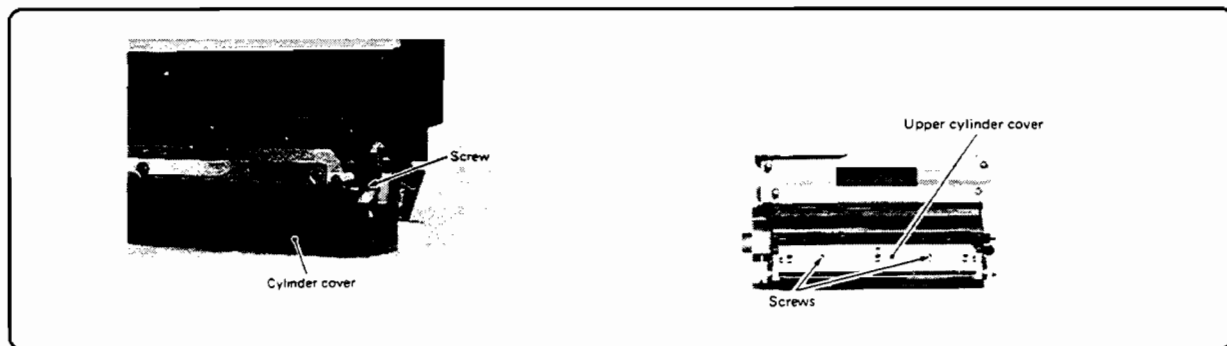

Figure 6-60. Developing Cylinder Covers
3. Remove the screw and detach the cylinder cover (Figure 6-60).
4. Remove the two screws and detach the upper cylinder cover (Figure 6-60).